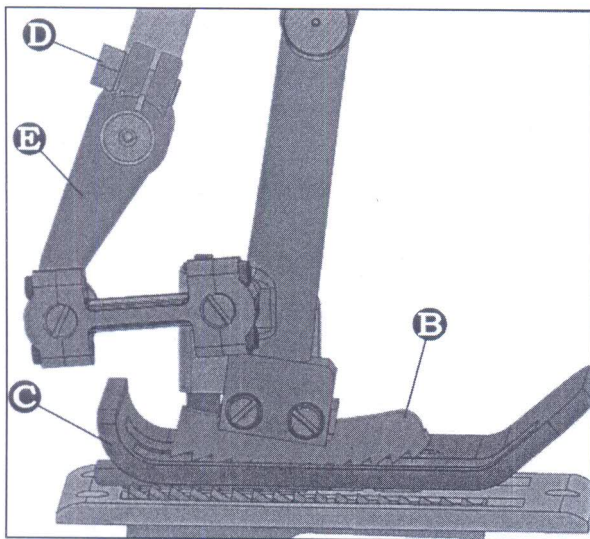
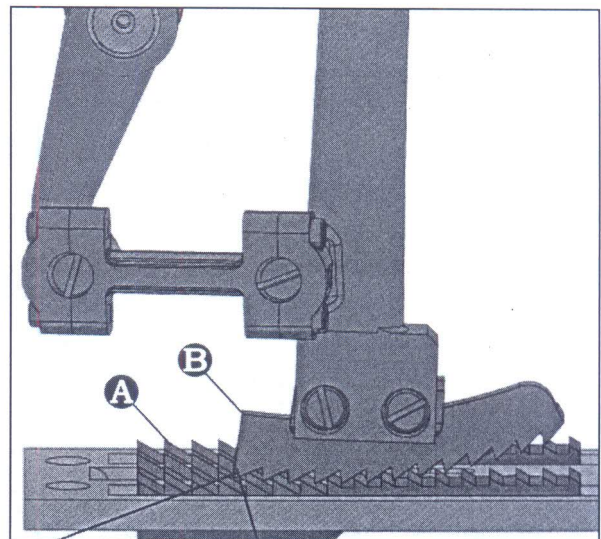

FIGURE 9
FIGURE 10
Assemble the upper feed dog (B, Fig.9). The upper feed dog should not push against the front or the rear end when moving within the slots of the presser foot (C). Simultaneously, the upper feed dog (B, Fig.10) should be positioned so that the tips of its teeth engage with the tooth spaces of the lower feed dog (A), without contacting it. The rear most tooth of the upper feed dog should enter the 4th space from the back of the lower feed dog without contacting it. When the lower feed dog (A) is in its highest and the upper feed dog (B) in its lowest point of travel, there must be a small gap between both feed dogs (0.2 - 0.3 mm). The feed travel of the upper and the lower feed dogs should be synchronous. If not, the fabric will become scraped.
For setting the upper feed dog with respect to slots in the presser foot and the tooth spaces of the lower feed dog, loosen screw (D, Fig.9) and turn drive lever (E) accordingly to the front and rear. Retighten screw.